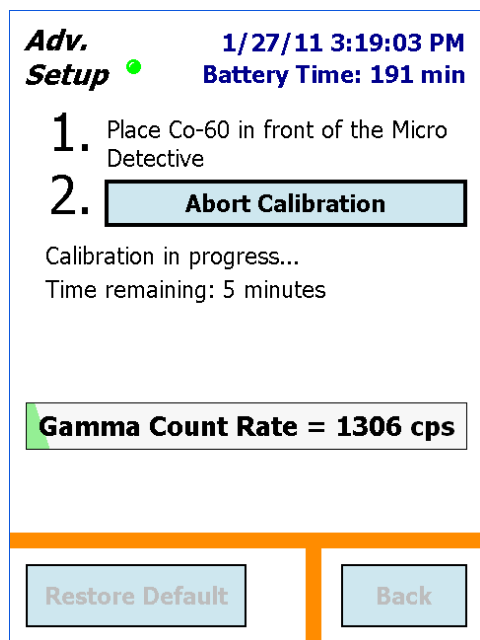

Figure 13. Status of Manual Calibration.
- While calibration is in progress (Fig. 13), a **Time remaining** readout should be displayed. This interval will depend on the strength and proximity of your calibration source.